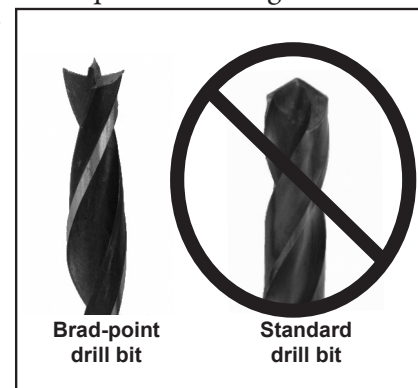

Figure 14 – Drill bits
3. Carefully drill a hole with a 1/2" brad-point drill bit (*see figure 14*). This type of drill bit centers the hole and holds the bit in place, helping to prevent damage caused by the drill bit sliding on the surface of the harp. Be sure to keep the drill bit perpendicular to the surface of the harp, and use gentle pressure to avoid chipping out the back of the hole or plunging the drill through and damaging the interior of the harp.